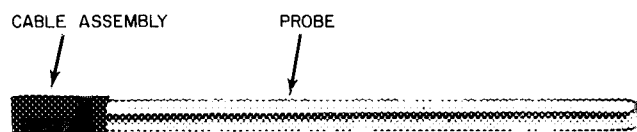
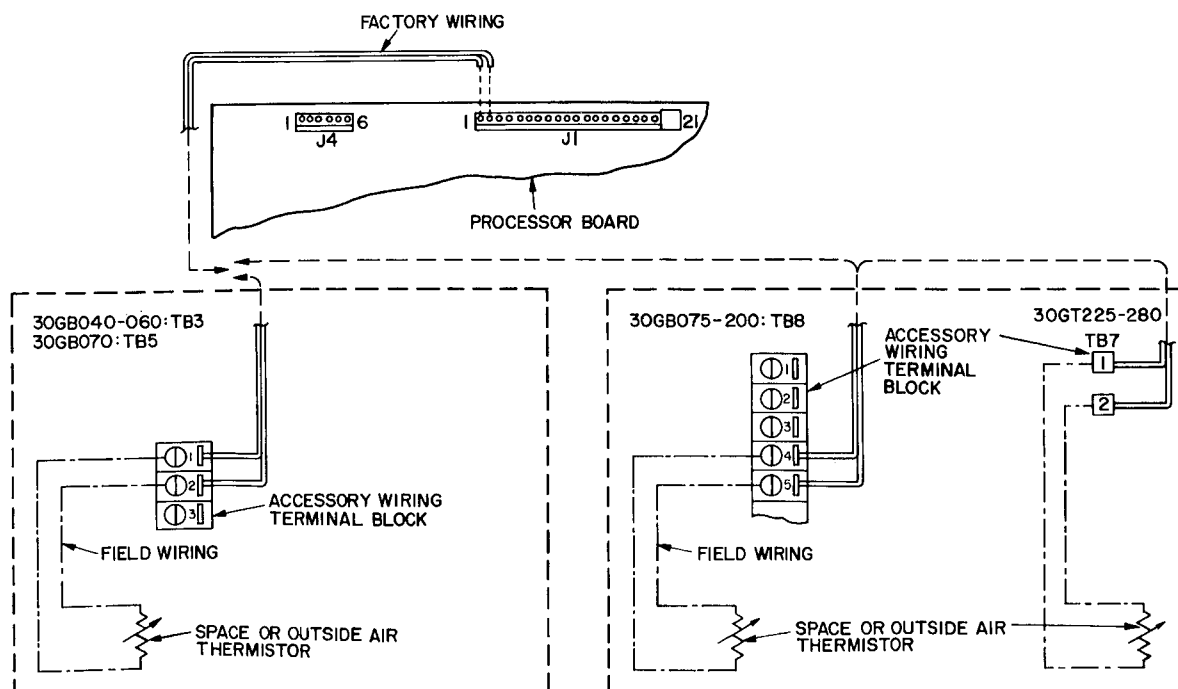

Fig. 17 — Reset Thermistor
Fig. 18 — Space/Outside-Air Thermistor Wiring Diagram
6. To use space temperature reset or outside air reset, an additional thermistor must be installed. Carrier Part No. HH79NZ014 should be used for this purpose (see Fig. 17); it is included in Service Parts package no. 30GB660002. The thermistor should be connected to the terminal block as shown in Fig. 18. To avoid electrical interference DO NOT run the thermistor wire near line voltage wiring, electrical machinery, large contactors or other devices. Wire lengths up to 1000 ft (304 m) may be used with 22-gage wire.